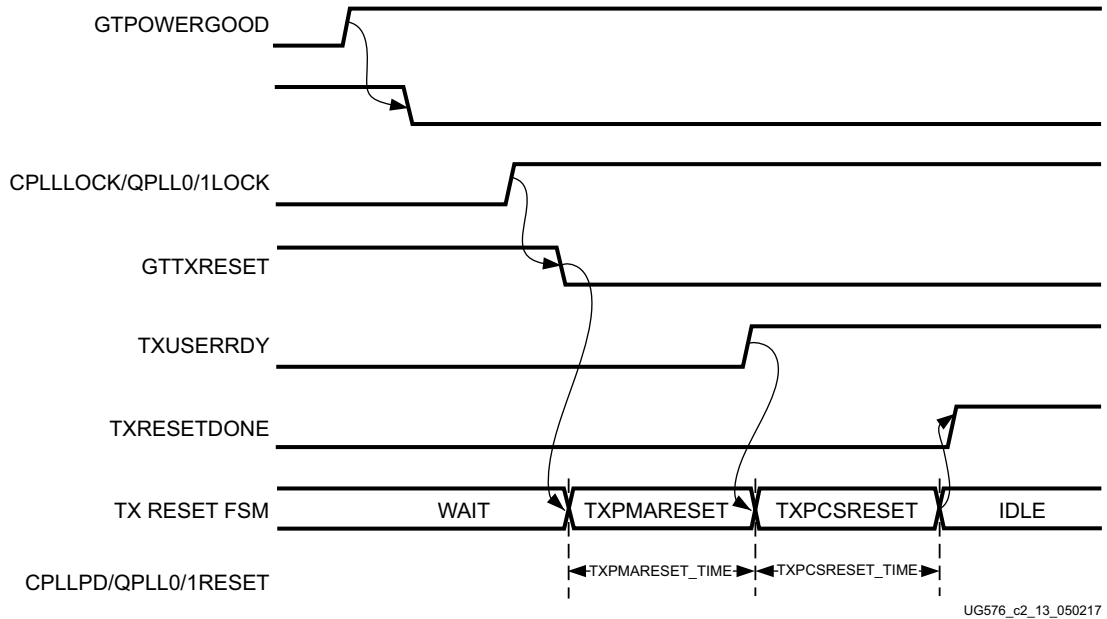

Figure 2-20: GTH Transmitter Initialization after Configuration
3. Assert QPLLRESET, CPLLDP, and GTTXRESET following the reset sequence described in Figure 2-20.
RECOMMENDED: Use the associated PLLLOCK from either CPLL or QPLL to release GTTXRESET from High to Low as shown in Figure 2-20. The TX reset state machine waits when GTTXRESET is detected High and starts the reset sequence until GTTXRESET is released Low.